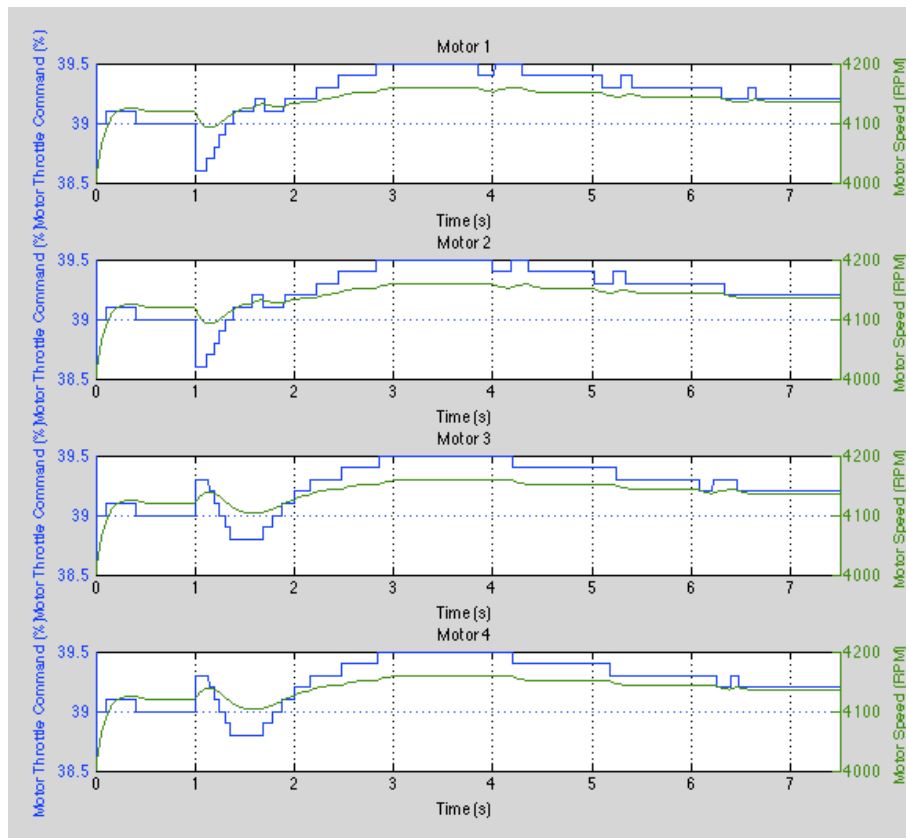

Figure 7. Quantized motor commands
- **Quantization effects:** Due to data type and Arduino Servo library limitations, our percent throttle signals had to be rounded to the nearest 0.1% throttle. This lack of continuous signal capability has an effect on stability, and we felt it was an important effect to add to the model (See Figure 7).